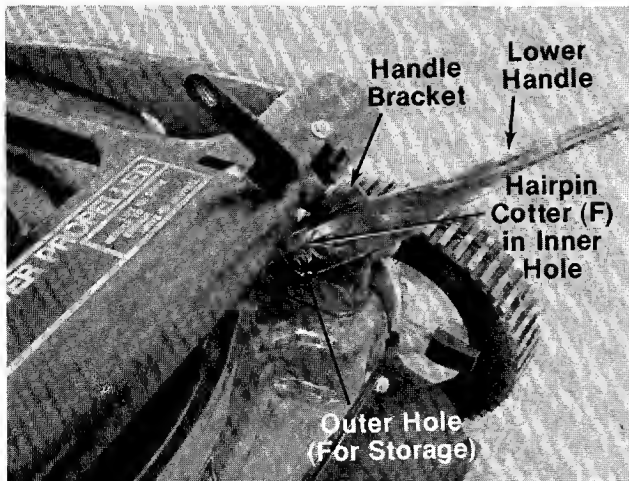

FIGURE 2.
- C (2) Lock Washers 5/16" I.D.
- D (2) Hex Nuts 5/16-18 Thread
- E (2) Cable Ties
- F (3) Hairpin Cotter
- G (1) Spring
- H (1) Ferrule
- I (1) Clutch Rod
- Attach the lower handle by placing the bottom holes in the lower handle over the weld pins on the handle mount brackets. Make certain the instruction label on the lower handle can be read from the operating position. Secure with hairpin cotters (F) in inner holes on weld pins. See figure 2.